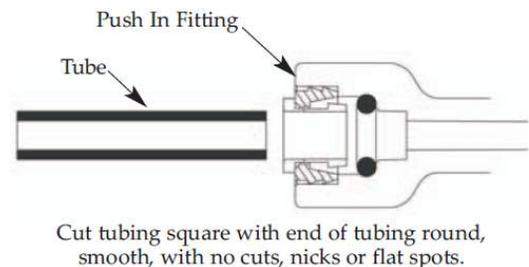
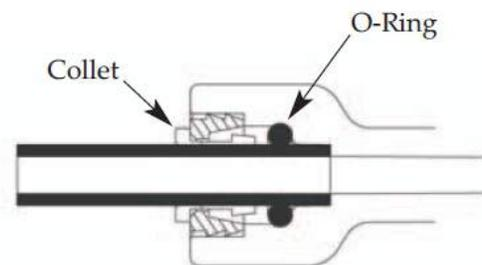

Figure 6
Figure 7
- Use a sharp cutter or knife to cut the end of the tubing. Always cut the tubing square. See Figure 6.
- If needed, cut the tubing again. See Figure 6.
- Push tubing through collet, until it engages the o-ring. See Figure 6. Continue pushing until the tube is flush against the back of the fitting. See Figure 7. A common mistake is to stop pushing when the tube engages the o-ring. This will lead to future leaks. When a 1/4" tube is fully engaged, 11/16" of the tube has entered the fitting. When a 3/8" tube is fully engaged, 3/4" of the tube has entered the fitting. See Figures 6-7.